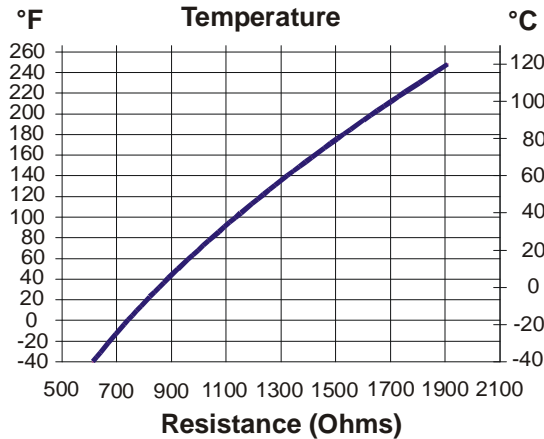

Figure 7: Temperature vs. Resistance Chart for the A99B Series Sensor
- b. Disconnect the sensor from the control. Using an ohmmeter, measure the resistance across the two sensor leads. Consult Figure 7 to verify sensor conformance.